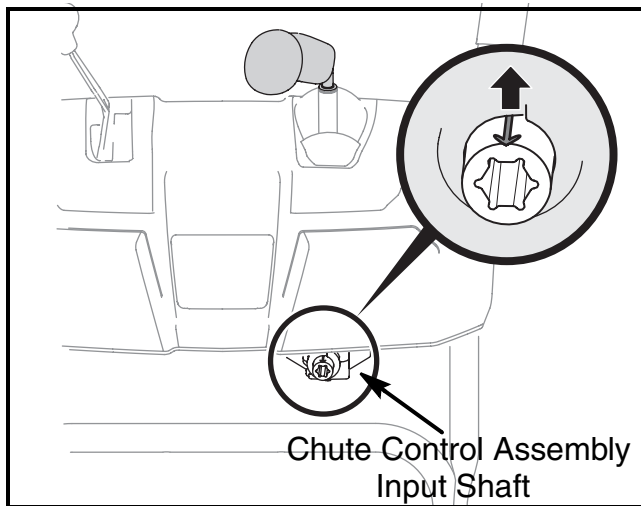

FIGURE 20
34. Rotate the joystick until the silver indicator arrow on the chute control assembly input shaft, below the control panel, faces upward. See Figure 20.